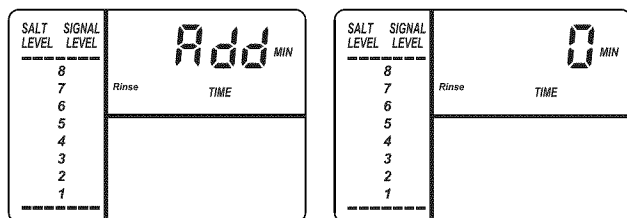

Figure 34
**BACKWASH & FAST RINSE TIMES:** If you experience salty tasting water after regeneration, you may need to increase the backwash and fast rinse times. The cycle times during regenerations are determined by the softener's electronic controller. However, you may increase the backwash and fast rinse times, in 1 minute increments. If you wish to increase the backwash time, use the  $\triangle$  UP button to add up to 15 minutes to the backwash time. Then press SELECT to display the alternating screens shown in Figure 34.